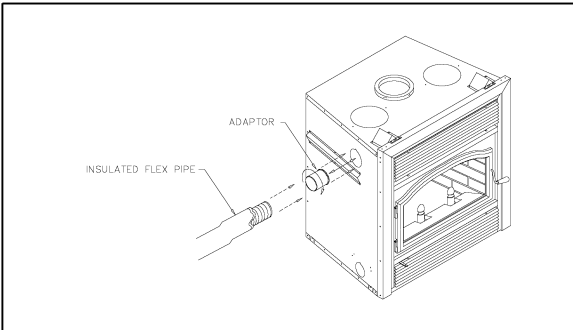

Figure 19
- A) Fix the adaptor at the back and/or the side of the fireplace by twist-locking the adaptor to the fireplace. You can use more than one outlet on the fireplace (figure 19).